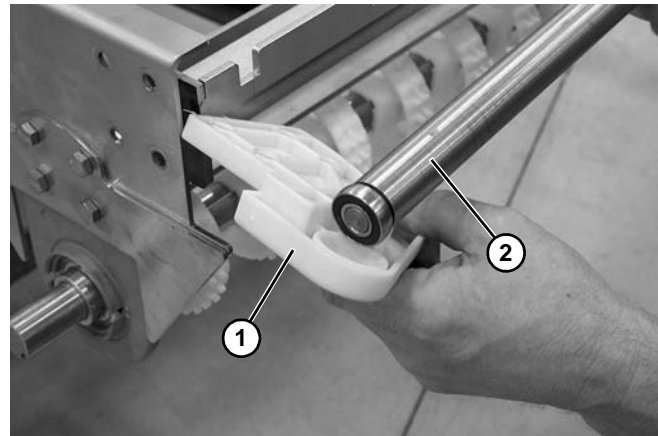

Figure 54
4. Remove headplate (Figure 54, item 1) and spindle assembly (Figure 54, item 2).